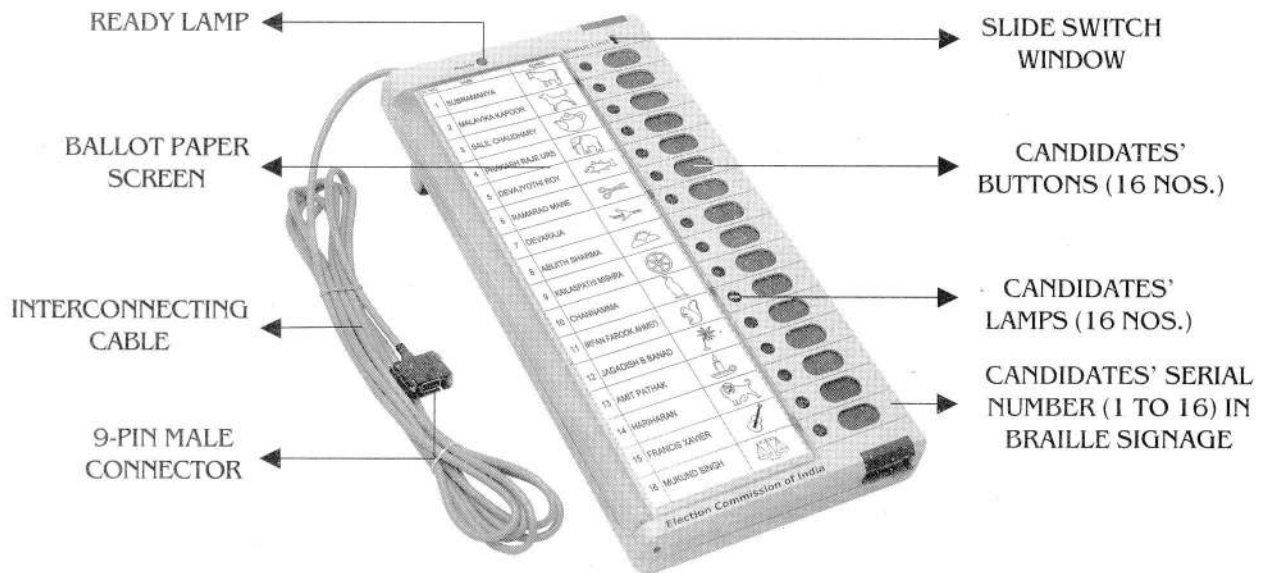

FIG. 3 Ballot Unit
10. It consists of a rectangular box. The box, which is as shown in Fig. 3, has :